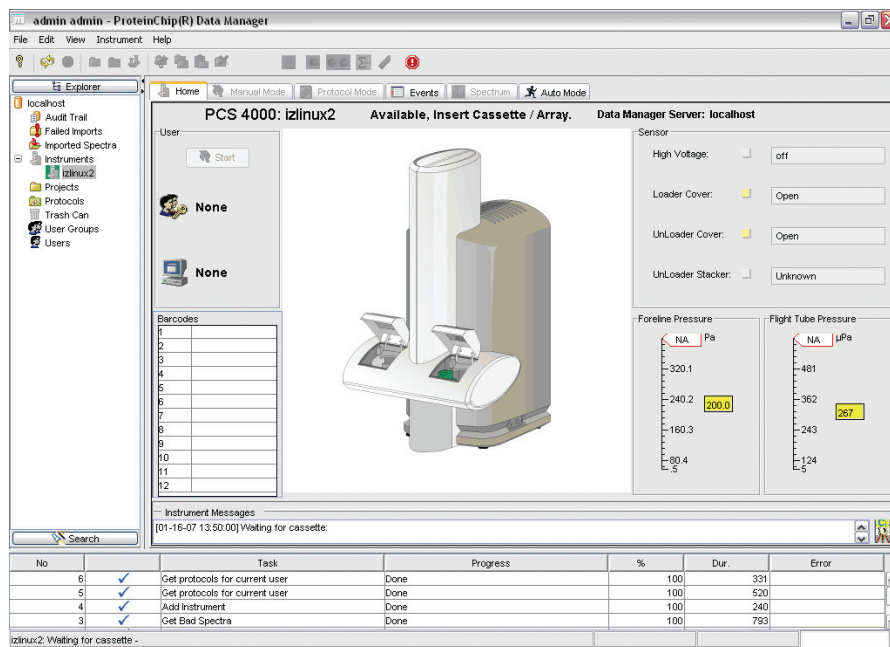

Fig. 34: The Home tab of the ProteinChip data manager software.
5. Click on the reader name in the **Explorer** tree to connect to the reader. You will see the **Home** tab screen similar to the one in Fig. 34.
5. Click on the reader alias in the **Explorer** tree to connect to the reader. You will see the **Home** tab screen similar to the one in Fig. 34.